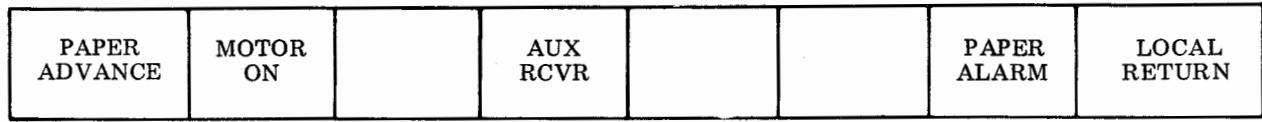

Figure 7 - 37 RO Control Panel
5.04 The indicators or controls used on the RO control panel are shown in Figure 7. Their functions are described in Table C.